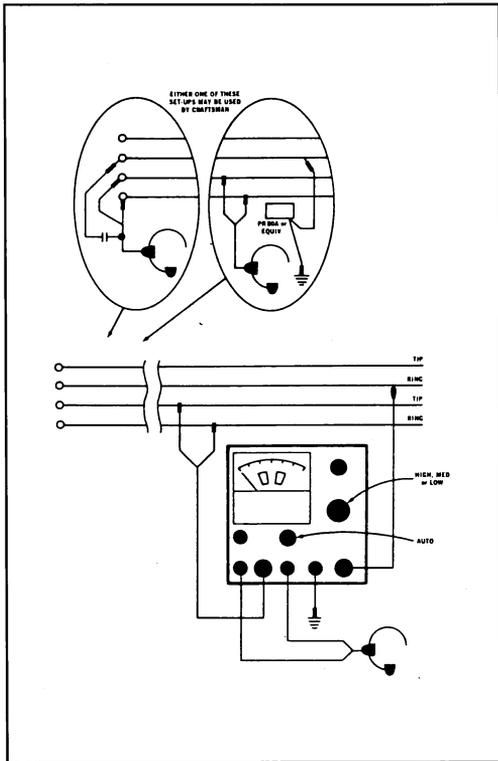

FIGURE 12
3.03 For the standard tagging method, the cord connections and switch positions are shown in Figure 12 for automatic tagging, which is recommended. In this AUTO position of the Function Knob, tone will be sent when the COM 300B cord is connected to one side of a vacant pair (no voltage, or less than five volts on pair) or a working line not in use (between 45 and 56 volts). The test set recognizes a working line in use by sensing the presence of a voltage between approximately 5 and 45 volts on the conductor; as long as this condition exists, no tone will be sent. If the unit is sending tone and the customer comes on the line (goes off-hook), the tone will immediately cease. On sensing a ringing voltage from an incoming call, the test set is designed to stop sending tone and to lock off until reset. Resetting is accomplished by temporarily removing the COM 300B cord from the line or by moving it to another pair. The condition of the line can always be determined by observing the meter indication. The red area indicates the voltage level at which the test set does not send tone in the AUTO mode; in the green area, tone is being sent.